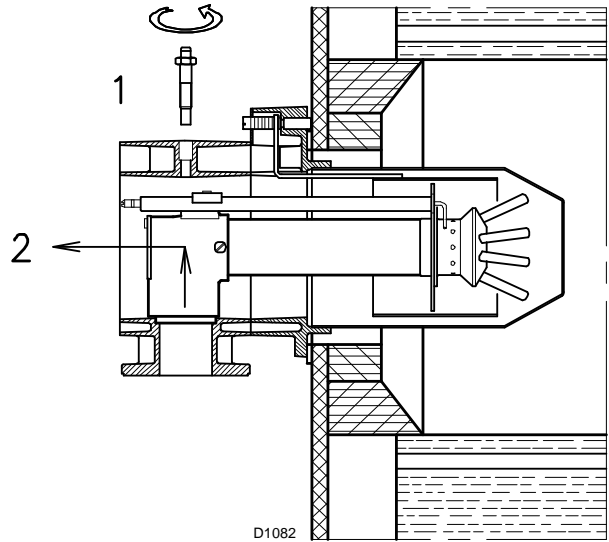

Fig. 10
- remove the screw 1)(Fig. 10)
- take out the inner part 2)(Fig. 10) of the head, and then calibrate them.